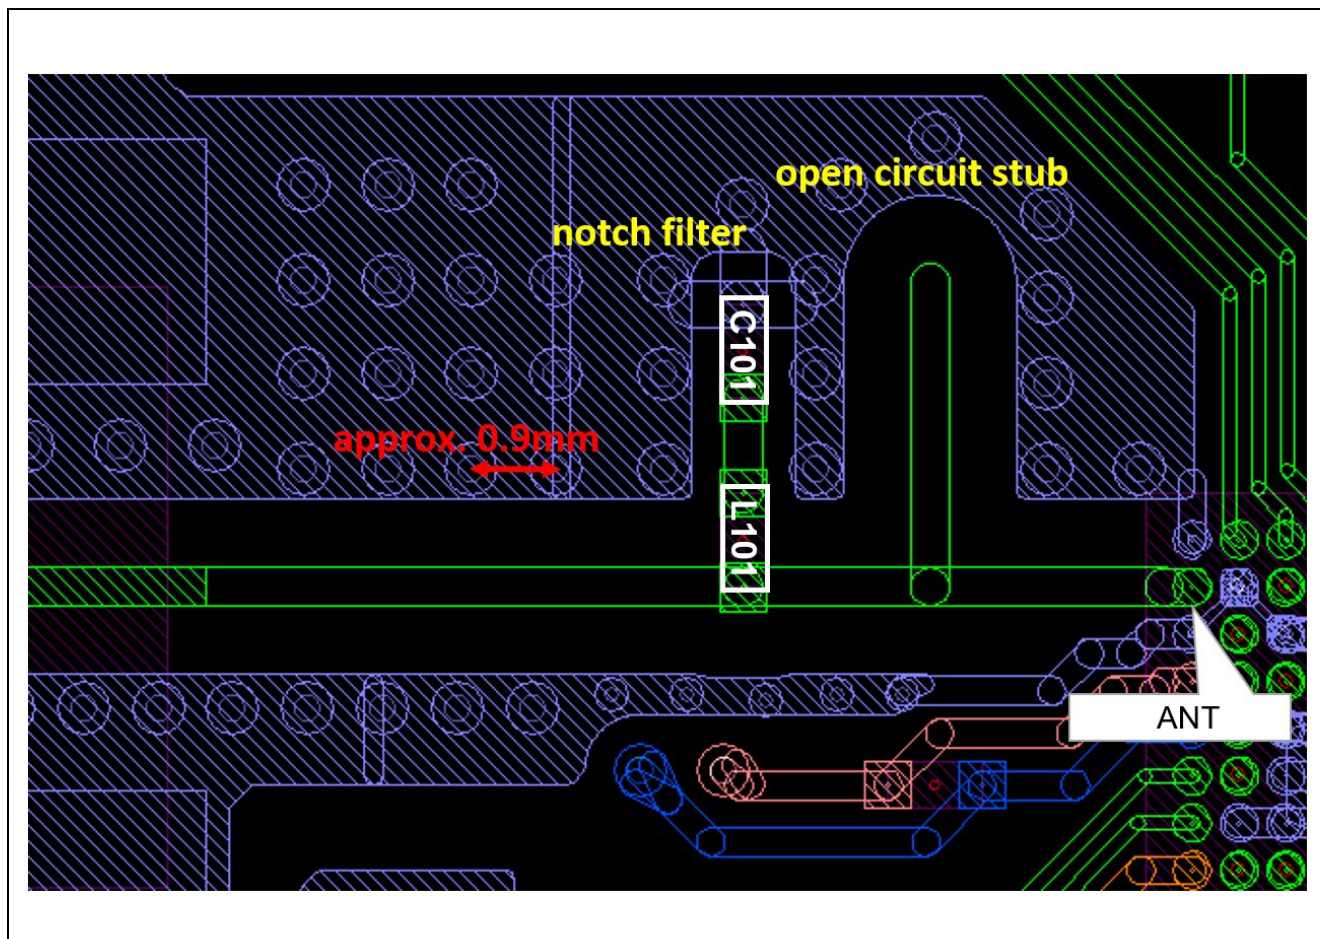

Figure 3-3 Example of the pattern around “ANT” pin
- Adjust the characteristic impedance of 50ohm for the signal line from an antenna to “ANT” pin. Optimize the width of signal line and the gap between signal line and ground pattern, considering the PCB permittivity and layer thickness. Depending on the antenna used, additional parts such as inductors or capacitors may be required. In the “Figure 3-3 Example of the pattern around “ANT” pin”, the coplanar waveguide is used.
- Place vias as many as possible between the coplanar waveguide ground pattern and the solid ground. We recommend that the via spacing should be approximately 0.9mm, as shown in “Figure 3-3 Example of the pattern around “ANT” pin”.
Figure 3-3 shows an example of the pattern around “ANT” pin.